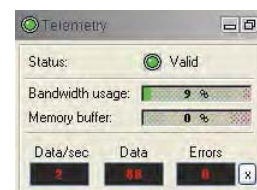

Figure 4-3 Telemetry panel
6. Once the caliper arms are open (Caliper Operating progress bar disappeared) turn the sampling **Off**, select the final sampling mode (depth or time) from the **Acquisition** panel (Figure 4-3). Click on **Settings** and specify the corresponding sampling rate. Switch on the sampling again (click the **ON** button).